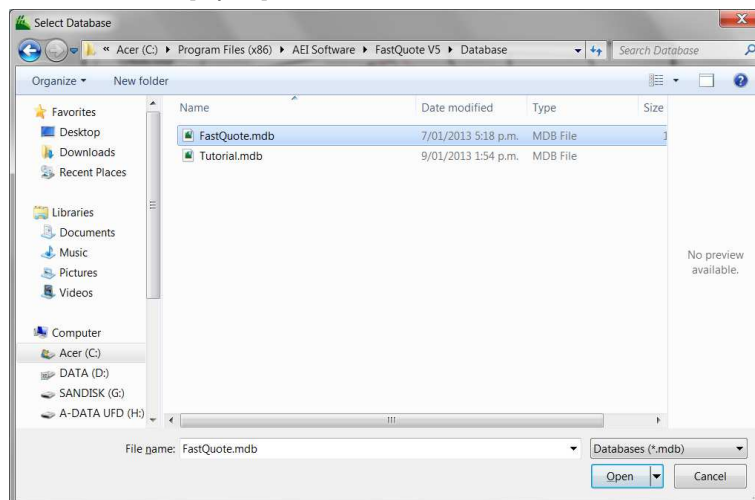

Figure 5-21
2. You will be asked if you wish to use the currently selected database (i.e. the default database). Select [No] if a different database is to be used. A dialog will appear in which you can browse for and select the required database as shown in Figure 5-21. Click [Open].